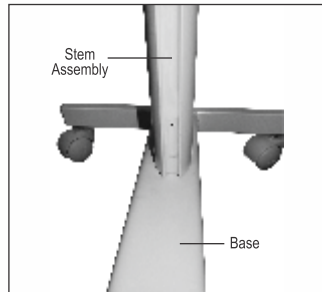
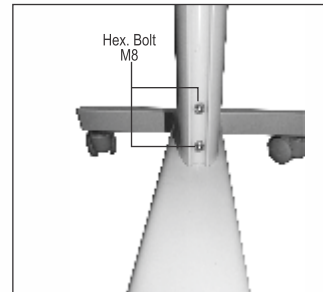

Fig 2
Fig 3
3. Place the stem assembly on the base and slide the aluminium extrusion stem (Fig 2) and fix it with hex bolt M8 (Fig 3).